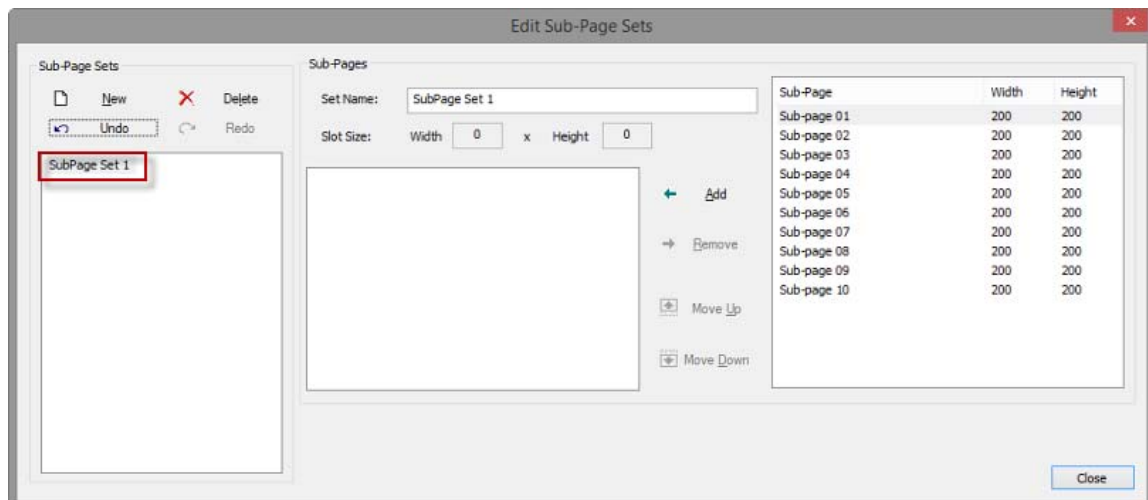

FIG. 95 Edit Sub Page Sets dialog - Sub-Page Sets list
4. Click **OK** to save your changes, close the *Create SubPage Set* dialog, and return to the *Edit Sub-Page Sets* dialog. The new Sub-Page Set is indicated in the *Sub-Page Sets* list on the left-side of the dialog (FIG. 95):